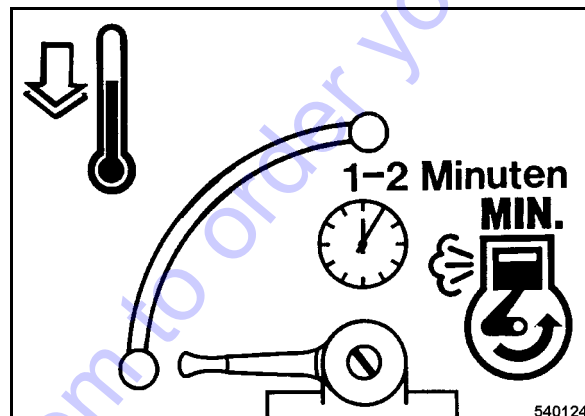

Fig. 21
- Move the throttle lever (Fig. 21) back to idle speed position.